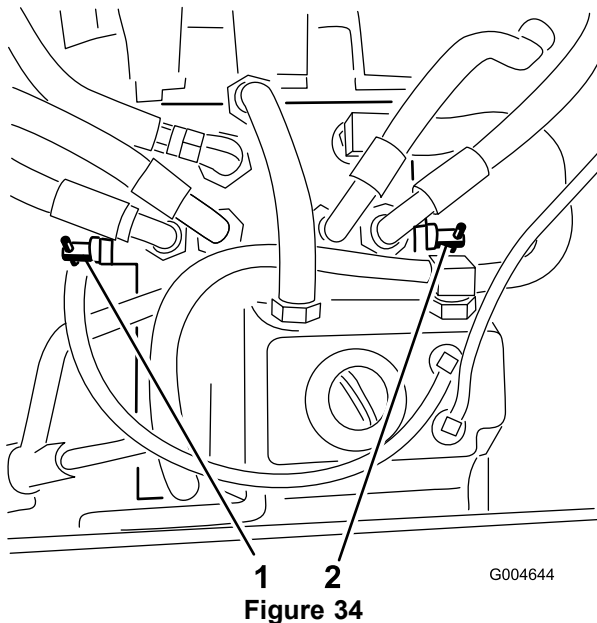

Figure 34
3. Rotate each by-pass valve counterclockwise 1 turn (Figure 34).
Rotate each by-pass valve clockwise 1 turn and hand tighten them (torque of approximately 71 in-lb (8 N-m) (Figure 34).